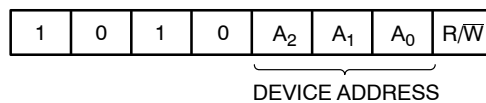

Figure 3. Slave Address Bits
The Master addresses a Slave by creating a START condition and then broadcasting an 8-bit Slave address. For the NV24C32LV, the first four bits of the Slave address are set to 1010 (Ah); the next three bits, A₂, A₁ and A₀, must match the logic state of the similarly named input pins. The R/W bit tells the Slave whether the Master intends to read (1) or write (0) data (Figure 3).